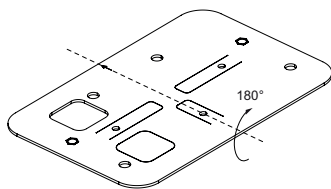
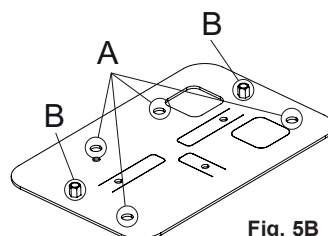

Fig. 5A
Fig. 5B
- 2) Turn the plate over through 180°, keeping the arrow pointing towards the rack (Fig. 5A), and position it in accordance with the measurements in Fig. 3 and use it as a template to mark out the positions of the 4 holes for the anchor bolts (ref. A) and the gear motor fixing screws (ref. B) (Fig 5B). The plate must be turned over otherwise the threaded inserts would prevent it from lying flat.